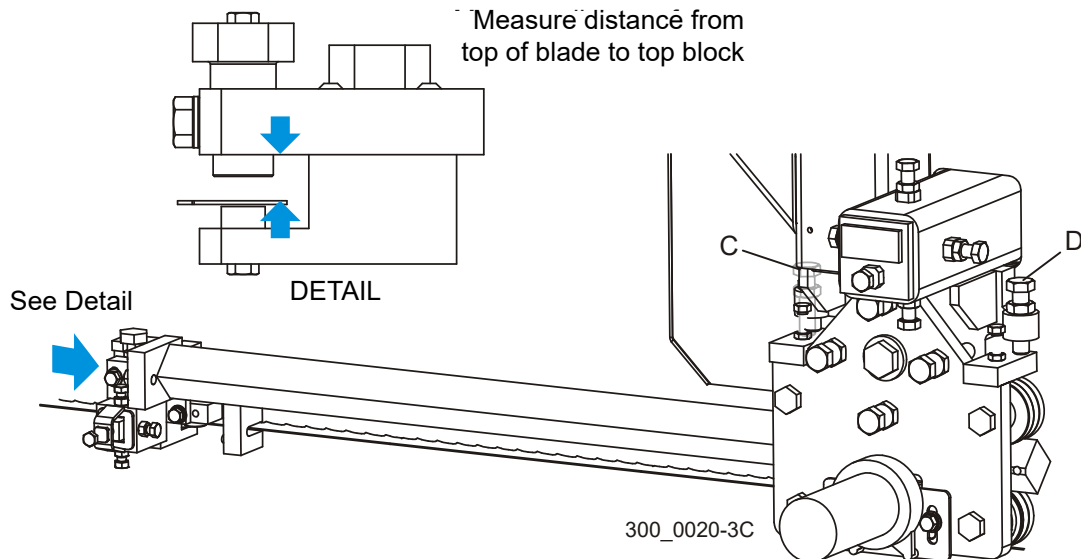

FIG. 7-14
See Figure 7-14. With the blade guide arm adjusted in near the inner blade guide, measure the distance from the top of the blade to the top blade guide block. Adjust the blade guide arm all the way out and measure again. If the two measurements are not equal with 1/32", adjust the vertical tilt of the blade guide arm. To adjust the vertical tilt of the arm, adjust the bolts (C & D) on the blade guide arm mounting plate. Loosen the jam nuts. Adjust bolt (C) up and bolt (D) down to tilt the arm up. Adjust bolt (D) up and bolt (C) in to move the arm toward the blade. Recheck the distance from the blade to the top block at